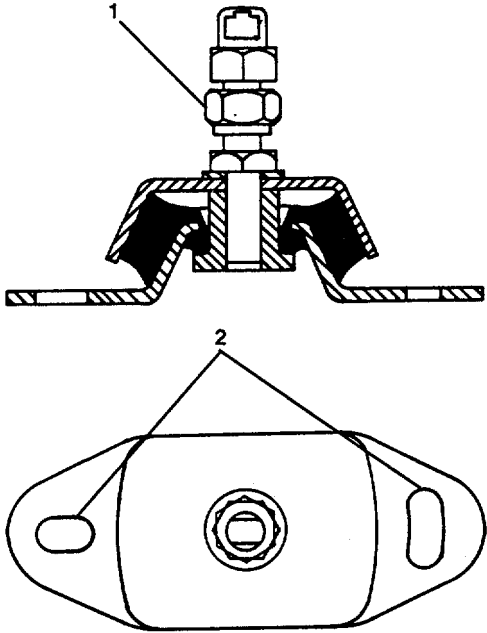

FIGURE 3-2. Resilient Mount.
- h. Remove the two bolts in each mount (2, Figure 3-2) and remove the six rubber cushioned mounts.
- (1) Insert two mounting bolts in each mount (2, Figure 3-2).
- (2) Do not tighten bolts completely at this point.
- Ensure the nuts (1, Figure 3-2) are removed from each mount before hoisting generator set into place.